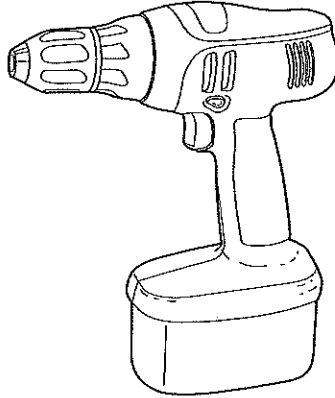

Fig. 1
- 1** Fig. 1 shows a cordless rechargeable drill.